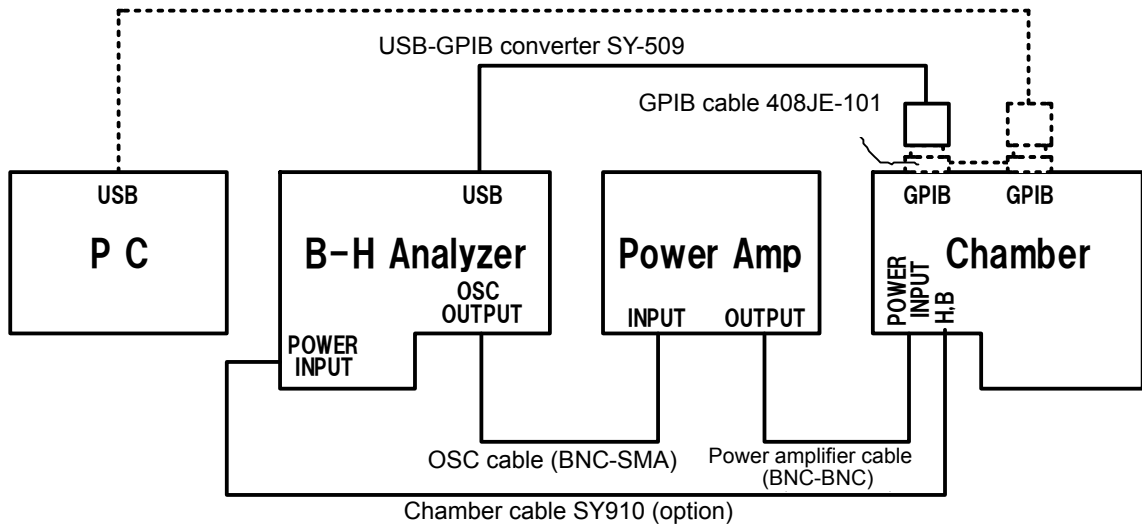
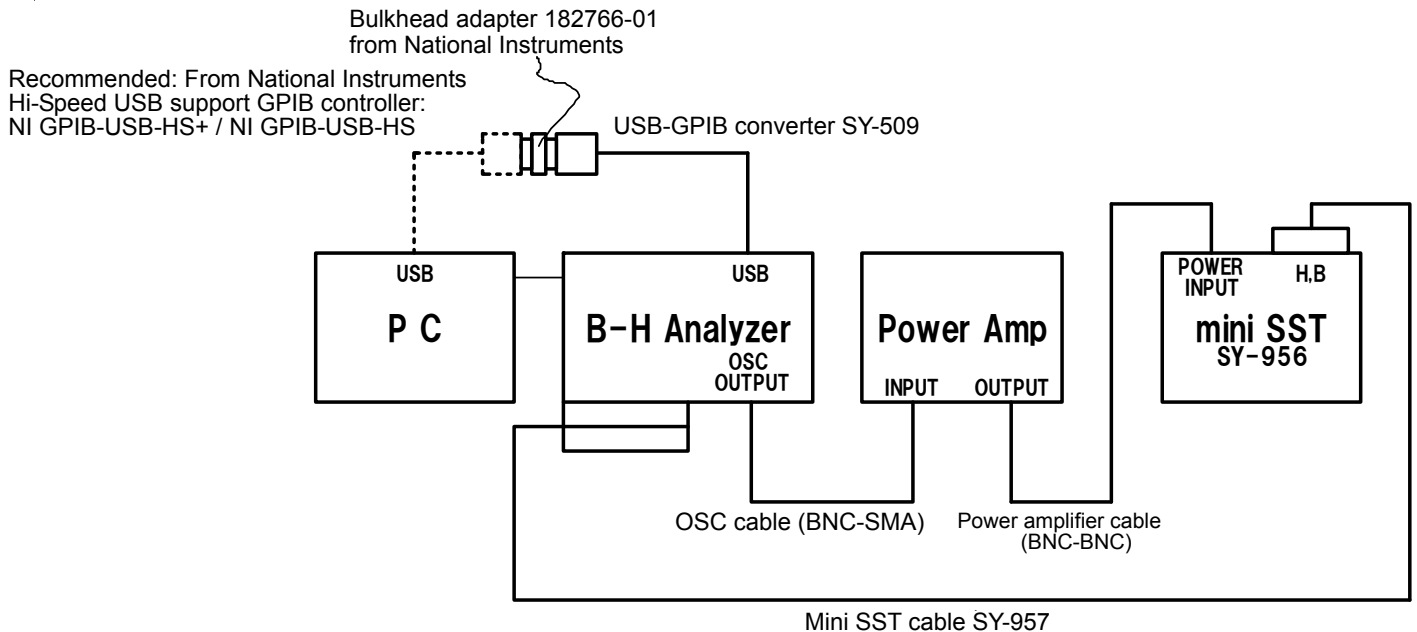
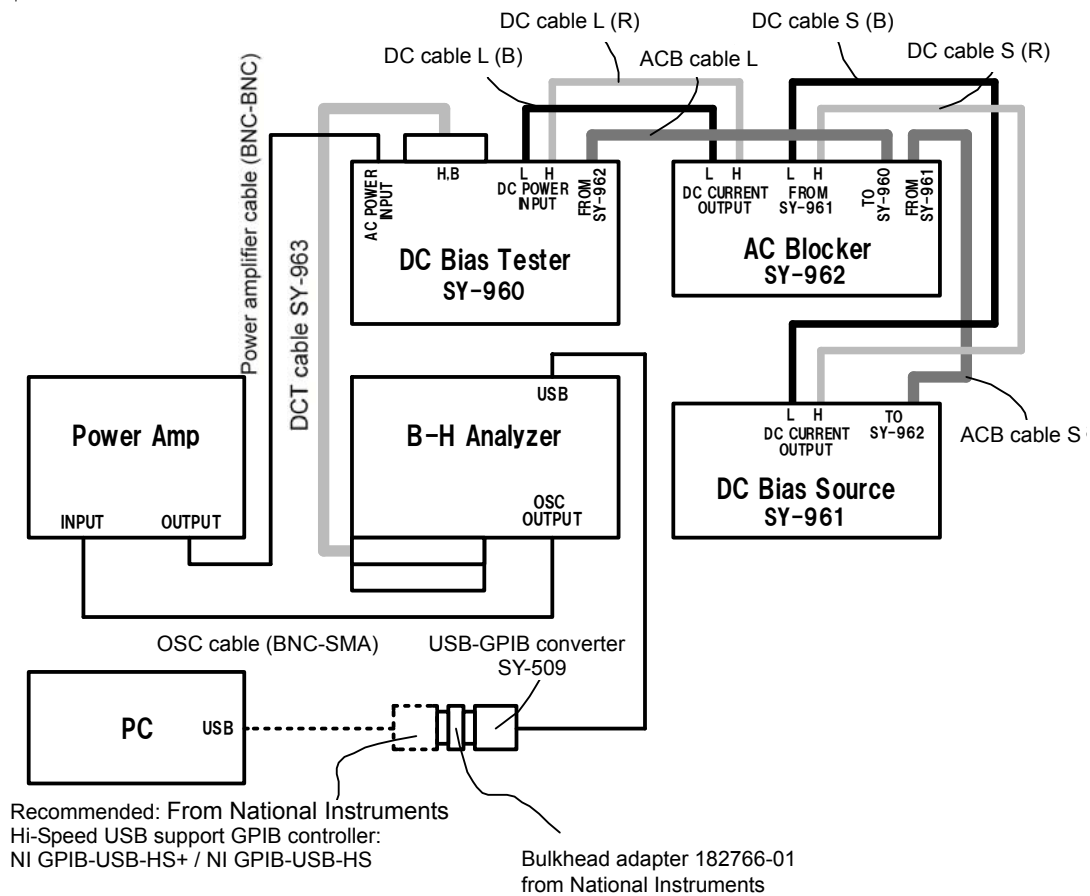
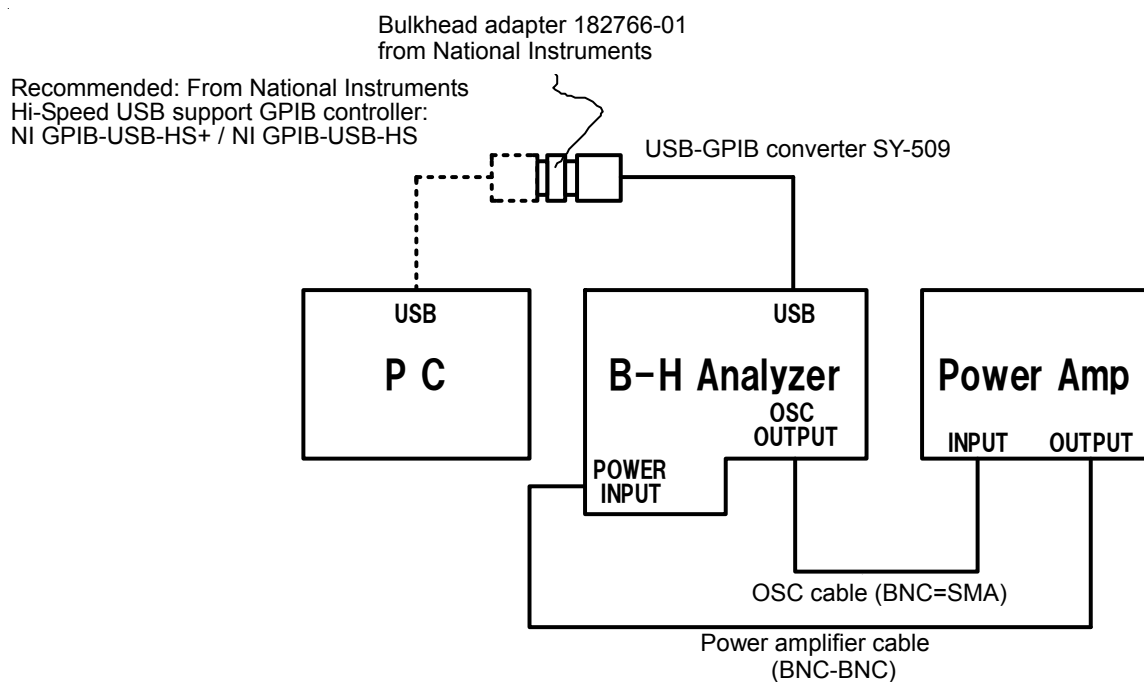

Figure 2-1 Connection using Chamber Scanner System SY320x/321x
Figure 2-2 Connection using Mini Single Sheet Tester SY-956
Figure 2-3 Connection using DC Bias Tester SY-960 etc.
Figure 2-4 Connection using only B-H Analyzer SY-821x
- The diagrams below show connection of devices necessary for measurement; i.e. Figure 2-1 for connection using the Chamber Scanner System SY-320x/321x, Figure 2-2 for connection using the Mini Single Sheet Tester SY-956, Figure 2-3 for connection using the DC Bias Tester SY-960 and Figure 2-4 for connection using only B-H Analyzer SY-821x.